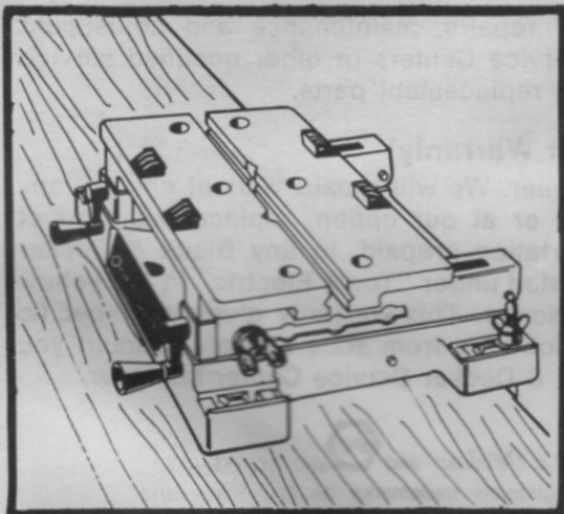

FIG. 16
1. Clamp the WORKMATE® to the bench with the vise handles at the back of the WORKMATE® (facing the back of the work bench) (Figure 16).